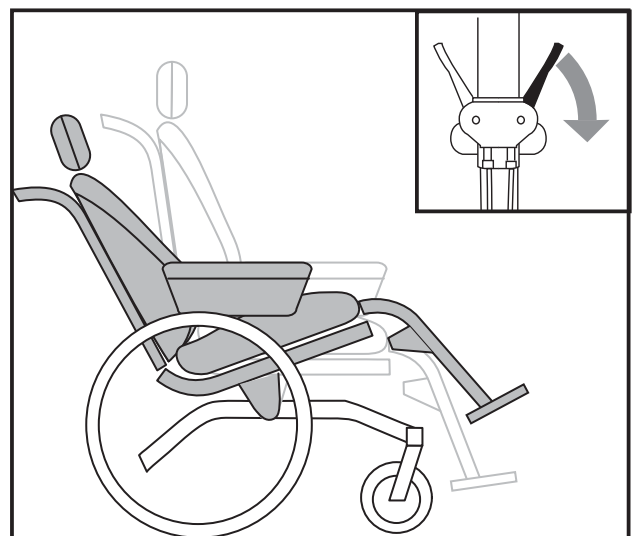

Figure 11
- Tilt the chair with the right adjustment lever (9B) (see Figure 11)